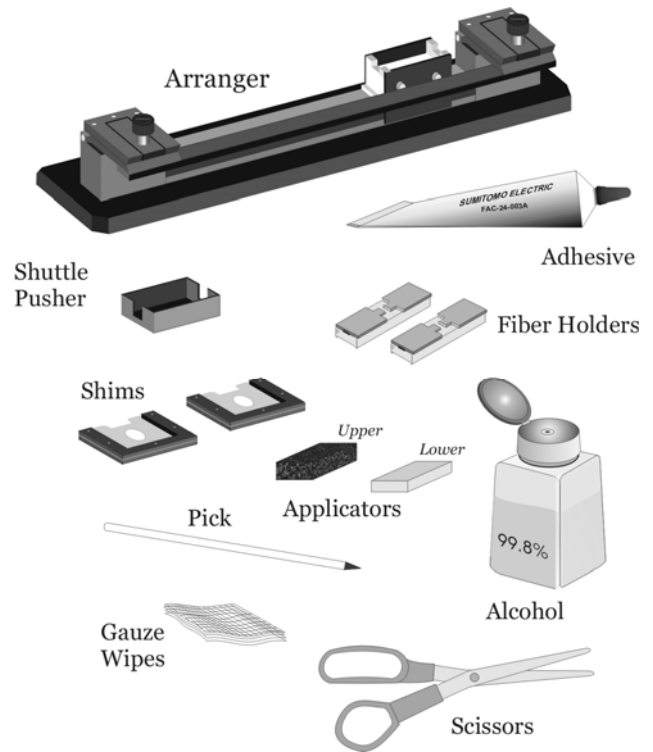

Figure 2. Required Equipment
5.02 Before creating a fiber ribbon with the arranger, collect all of the necessary equipment as shown in Figure 2.